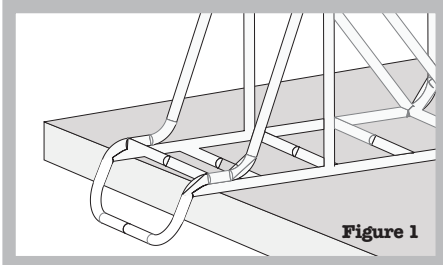

Figure 1
1. Start with a clean workspace, inventory hardware and gather supplies. Position the rack, upside down, on your work surface. The rear of the rack should overhang the edge of the work surface as shown in Figure 1. Optional—apply oil or Framesaver to the inside of the rack tubes (through the vent holes) to aid in corrosion prevention. For best results, allow time for the oil or Framesaver to soak in with the vertical holes covered and rotate occasionally.